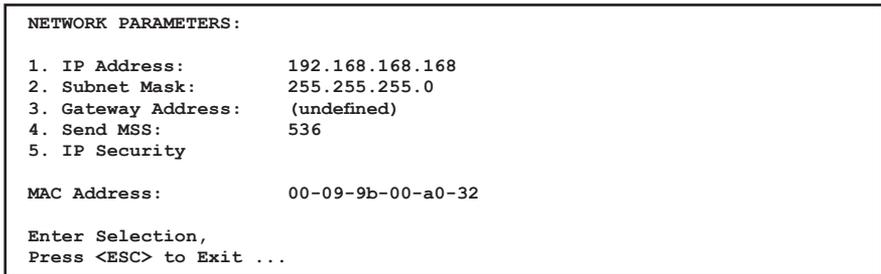

Figure 5.10: Network Parameters Menu - Text Interface
- **Text Interface:** Type `/N` and press **[Enter]**. The Network Parameters Menu will be displayed as shown in Figure 5.10.